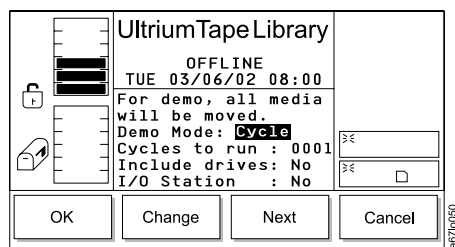

Figure 324. Demo Dialog
5. Press the button below the **Demo** softkey. The Demo Dialog displays (see Figure 324).